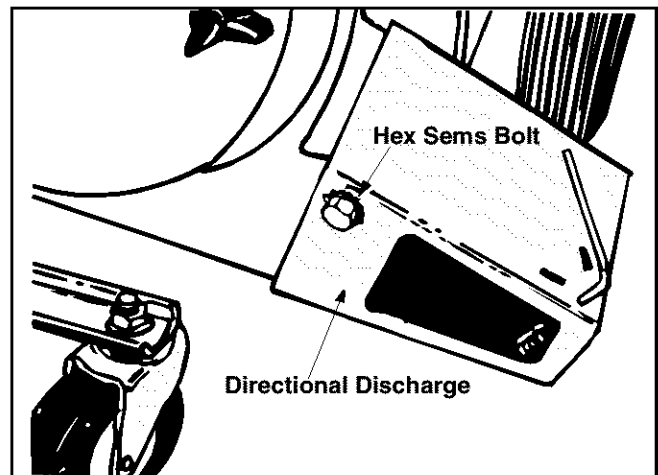

Figure 2
- Place the upper over the lower handle, aligning the holes in the upper handle with the middle holes in the lower handle. See Figure 2.
- Slip end of directional discharge over chute opening and secure with the hex sems bolts. See Figure 2.